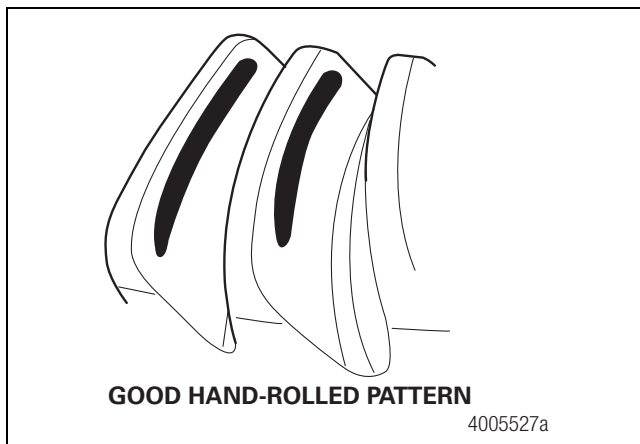
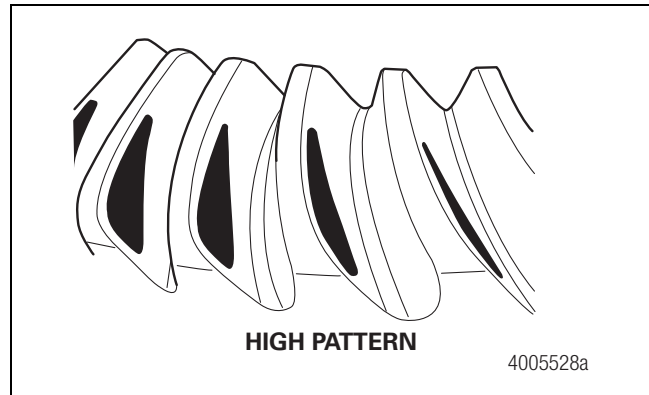
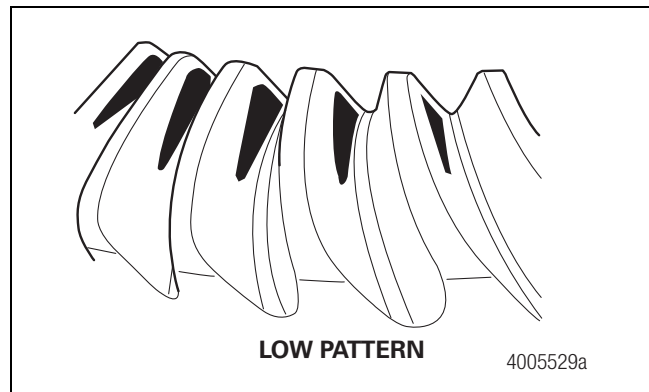
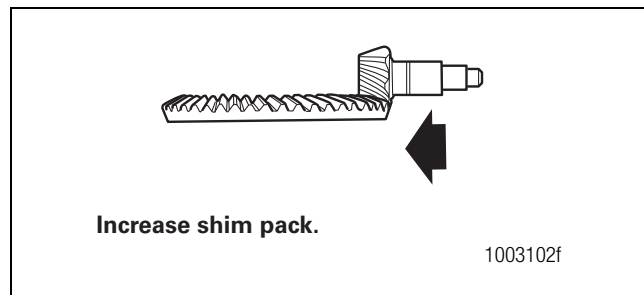

Figure 5.41
Figure 5.42
Figure 5.43
Figure 5.45
Always check tooth contact patterns on the drive side of the gear teeth. The drive side is the concave side of the ring gear, unlike a conventional hypoid gear. Figure 5.41.
4. Look at the contact patterns on the ring gear teeth. Compare the patterns to Figure 5.41, Figure 5.42 and Figure 5.43.
The location of good hand-rolled contact patterns for new gear sets is from the central toe, center, to the central heel area of the gear tooth and in the center between the top and bottom of the tooth. Figure 5.41.
- B. To correct a high-contact pattern, increase the thickness of the shim pack under the bearing cage, which moves the drive pinion TOWARD the ring gear. Figure 5.42 and Figure 5.45.